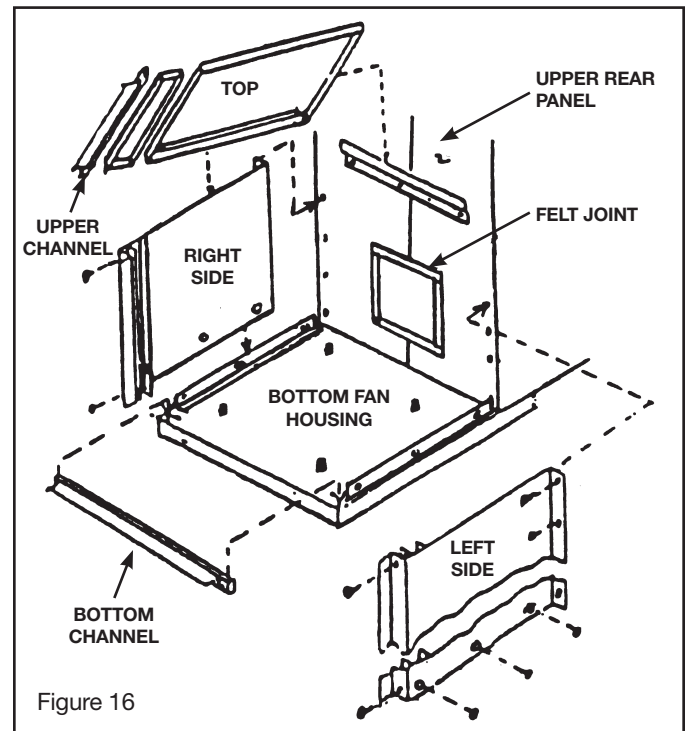

Figure 16
4. Install the blower assembly to the back of the unit as shown in figure 16. See figure 3 for typical hot air hookup.